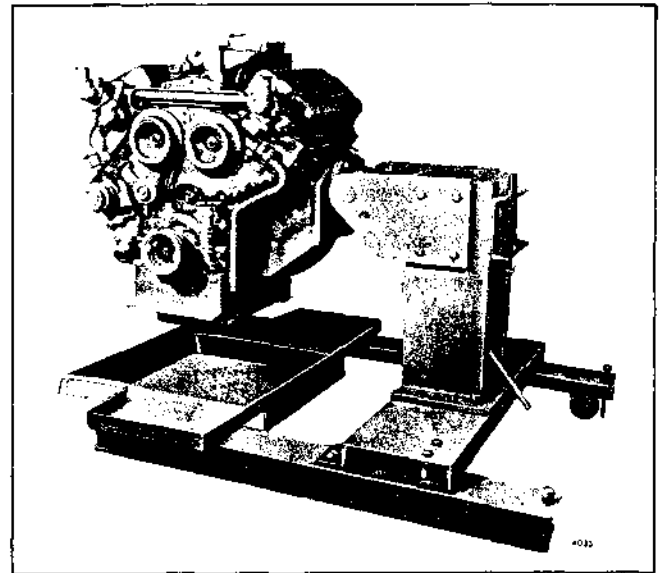

Fig. 9 - Engine Mounted on Overhaul Stand
The hydraulically operated overhaul stand (Fig. 9) provides a convenient support when stripping a cylinder block. The engine is mounted in an upright position. It may then be tipped on its side, rotated in either direction 90° or 180° where it is locked in place and then, if desired, tipped back with either end or the oil pan side up.
18. Place the side of the cylinder block against the adaptor plate on the overhaul stand (Fig. 9). Use adaptor plate J 7622 (In-Line engine), J 8683 (6V engine) or J 21966 (8V engine) with overhaul stand J 6837-01.